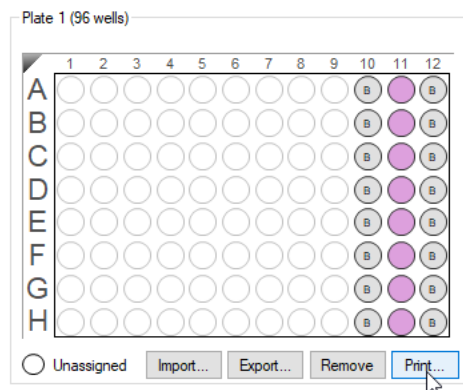

Figure 8-24: Sample Plate Print Button
1. In the **Sample Plate Map** (see Figure 8-24), click **Print**.